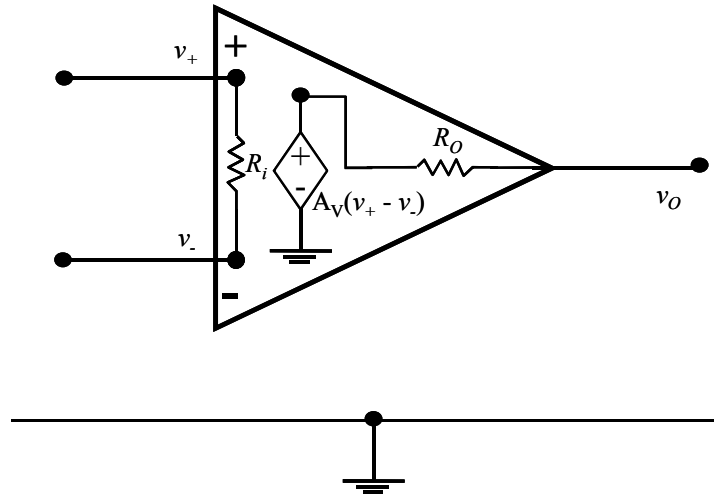

Figure 10. Operational Amplifier Model including input and output resistances and using a Dependent Source
- Also, we may include the resistances that appear with actual operational amplifier systems. This model is shown in Figure 10.